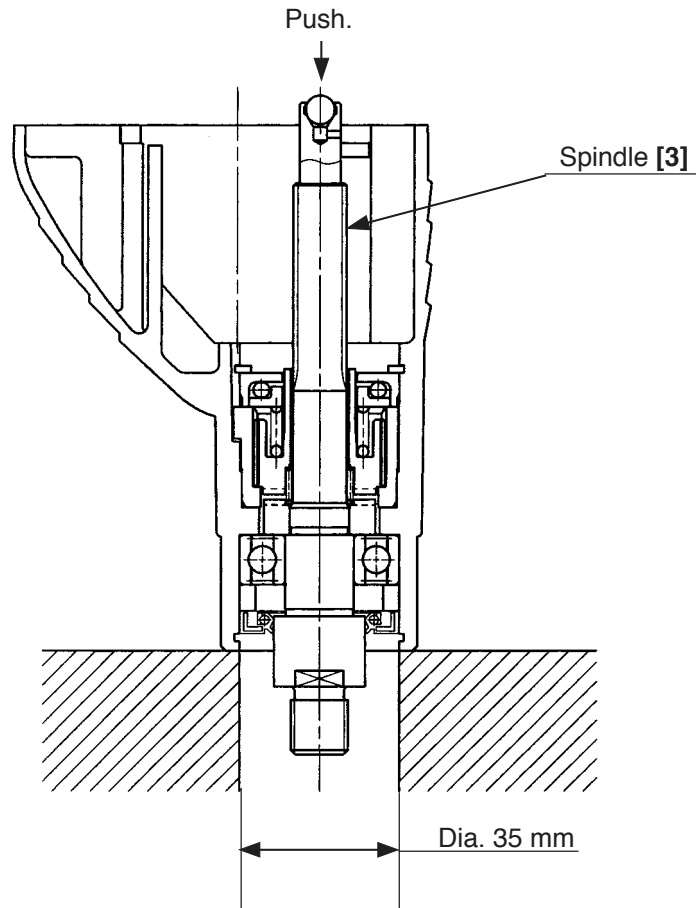

Fig. 10
Support the tip of the Gear Cover [11] with a cylindrical jig of inside diameter 35 mm or more, and push the rear portion of the Spindle [3] lightly. Then the spindle can be removed together with Oil Seal (A) [5], Distance Ring [6], Ball Bearing 6202DDCMPS2L [7] and Spring (A) [9]. (Fig. 10)